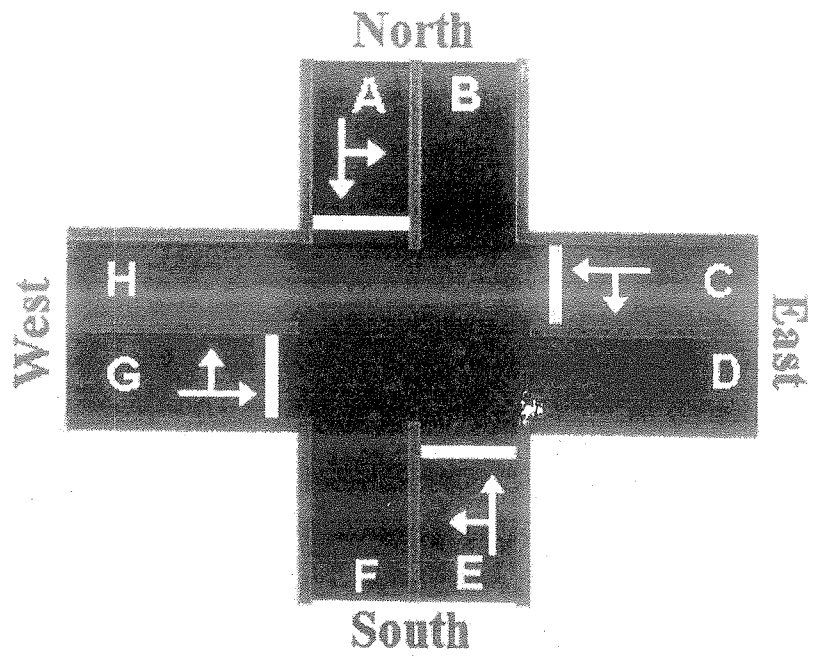

Figure Q3
- d) Figure Q3 illustrates the traffic flow layout of a four way road.